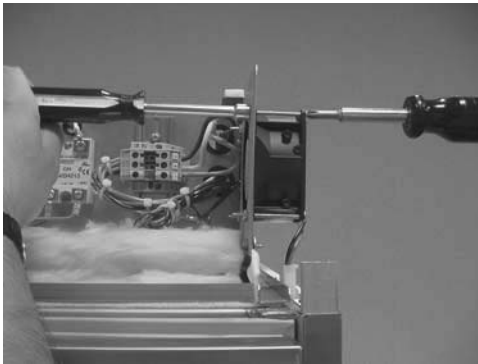

Figure 3-24
3. Remove screws and nuts securing the fan and remove fan from module. Figure 3-24.